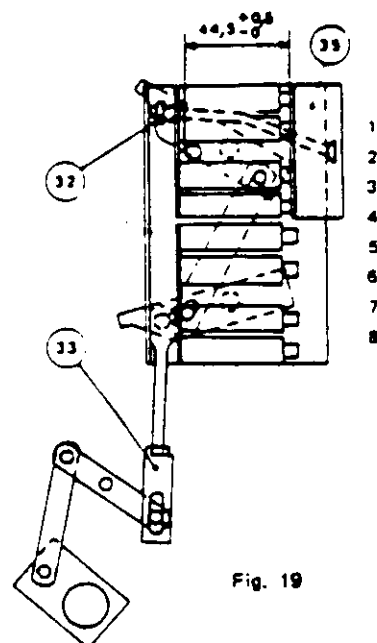

Fig. 19
#### 5. Auxiliary Contact Block Support Adjustment (Fig. 19).
With contact blocks removed, adjust nut (32) until distance shown in Fig. 19 is  $44.5 \pm 0.5$  mm ( $1.753 \pm 0.020$  inch).